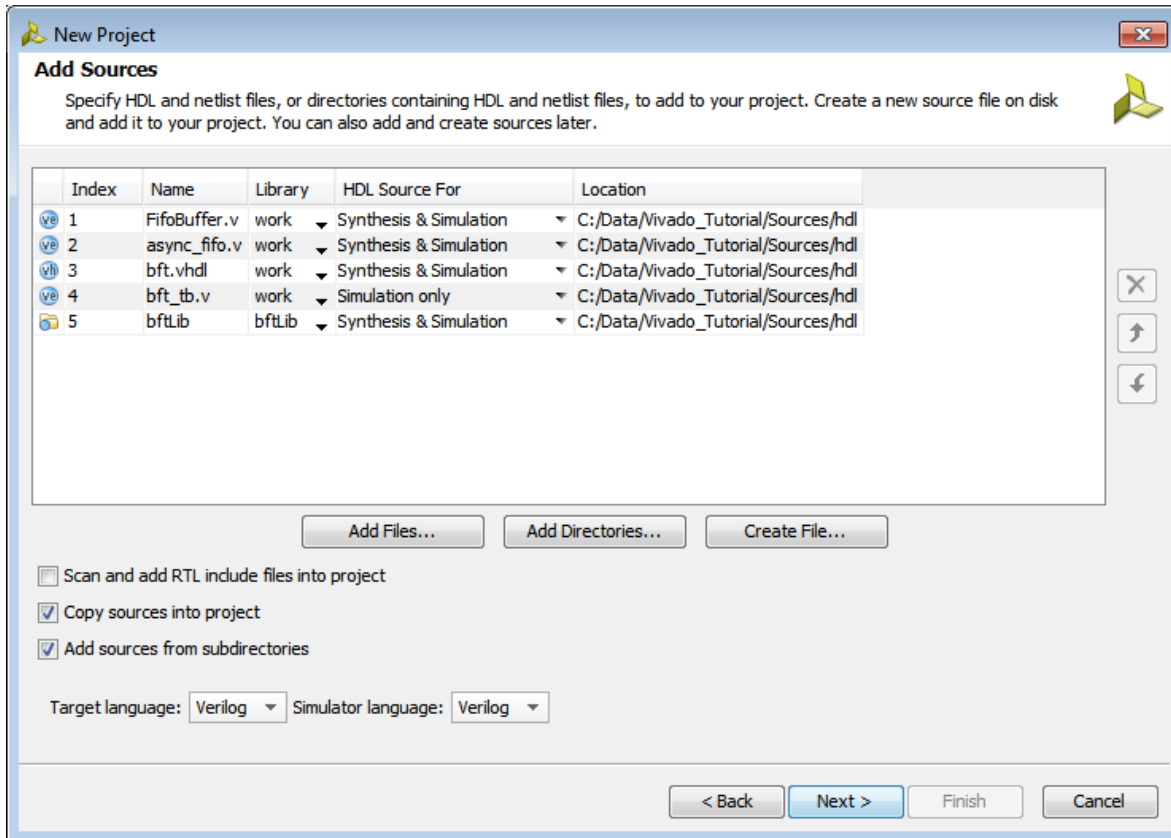

Figure 12: Add RTL Sources
11. Click in the **Library** column for the `bftLib`, and manually edit the value to change it from **work** to **bftLib**, as shown in Figure 12.